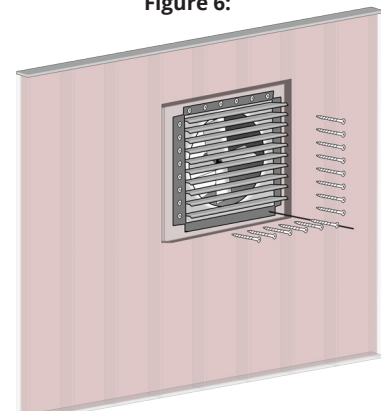

Figure 6:
9. When satisfied with unit position, attach unit to outer wall framing using screws as needed. (Fig. 6)